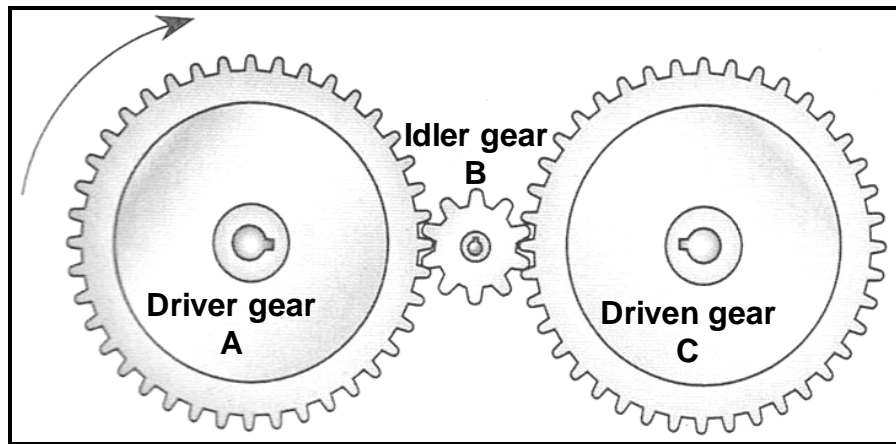

FIGURE 1.2
1.16 FIGURE 1.2 below shows three gears meshing. What is the purpose of idler gear **B**?